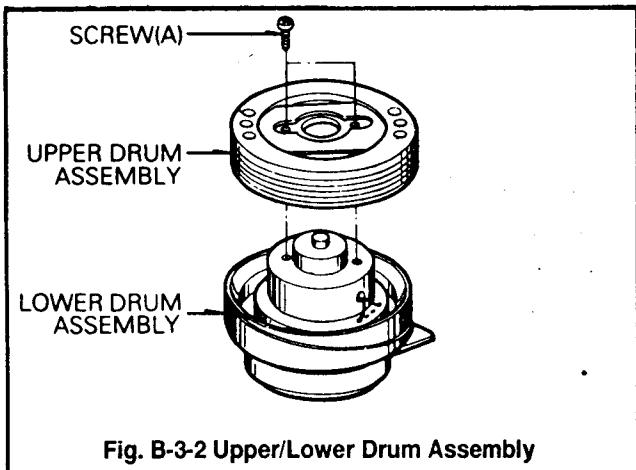

Fig. B-3-2 Upper/Lower Drum Assembly
- ① Do not touch the Video Head Tip with fingers or tools.
**3-2. Upper and Lower Drum Assembly (Fig. B-3-2)**